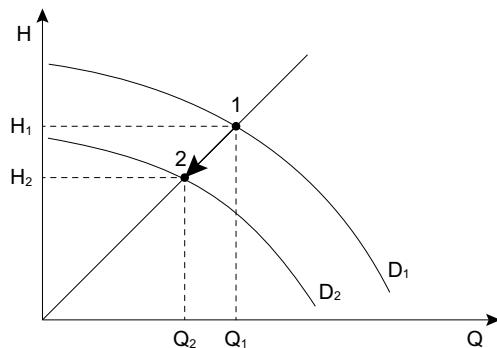

Fig. 7.3.2d Reducing impeller diameter
The connection between Impeller Diameter (D), Capacity (Q) and Head (H) is shown in Fig. 7.3.2d: